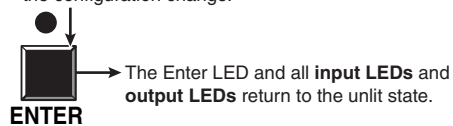

Figure 3-7 — Press the Enter button
- Press and release the Enter button (figure 3-7).